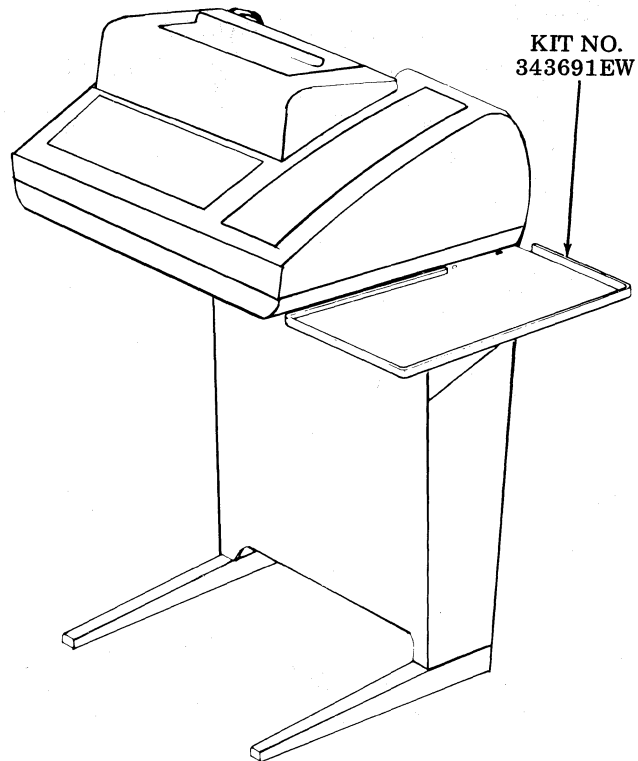

Figure 23 - 343691EW Modification Kit Mounted on a Model 33 KSR or ASR Set
2.106 The 343691EW modification kit will mount a telephone or other attendant set such as a Bell System 103G or 113A Data Set or an 804A Data Auxiliary Set, or equivalent, on Model 33 KSR or ASR Sets (Figure 23).